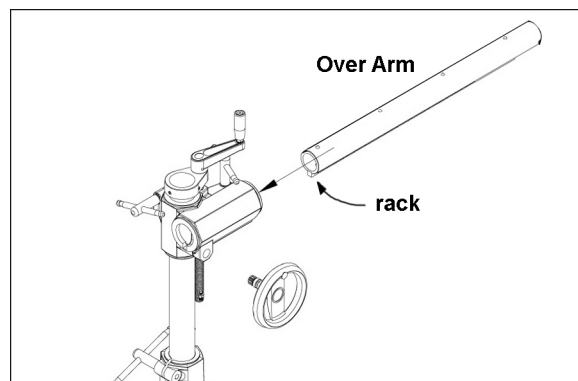

Figure 7
12. Slide the end of the over arm that has the rack extending all the way to the edge, into the bracket (Figure 7). NOTE: The rack will slide through the slot inside the bracket.